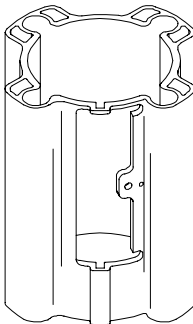

Fig. 2
1. Remove screw (A) and solenoid cover (B) to reveal cylinder sleeve (P).
2. Determine which cylinder sleeve (P) (P1, P2, P3 or P4 in Fig. 2) is installed on your sprayer.
For Cylinder Sleeve P1 / P3 (Fig. 2) –
- It may be necessary to use a small, flat, screwdriver to loosen sensor screws, located inside cylinder sleeve (P) before removing cylinder sleeve (Fig. 2).
For Cylinder Sleeve P2 / P4 (Fig. 2) –